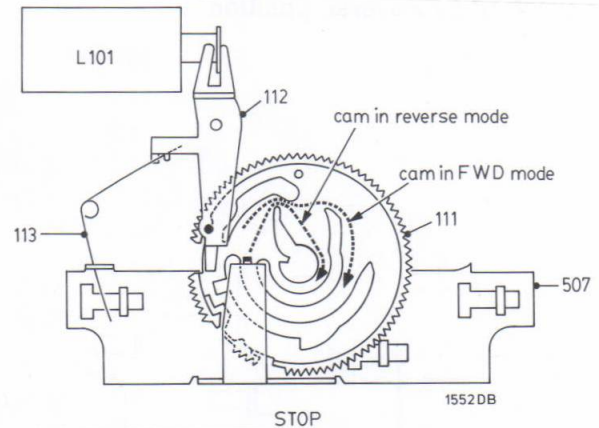
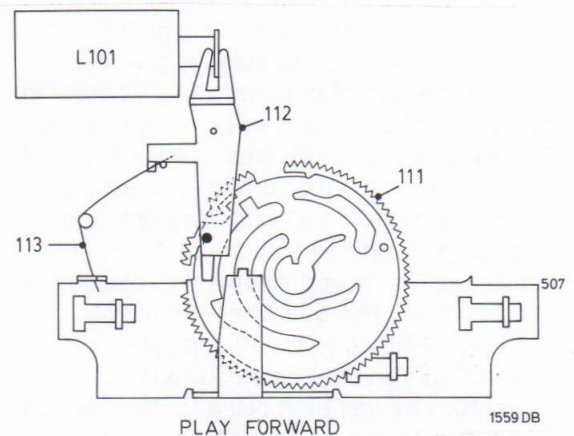

Fig. 8. Command gearwheel in Stop mode.
Fig. 9. Command gearwheel in Play Forward.
In figure 8 the Stop position of the gear wheel is shown. When L101 is activated, bracket 112 will no longer block gearwheel 111, but move this gearwheel a little bit counterclockwise and than it snaps into the capstan gearwheel. If the solenoid is activated the guiding pin of item 507 will come into the FWD mode (forward). See figure 9.